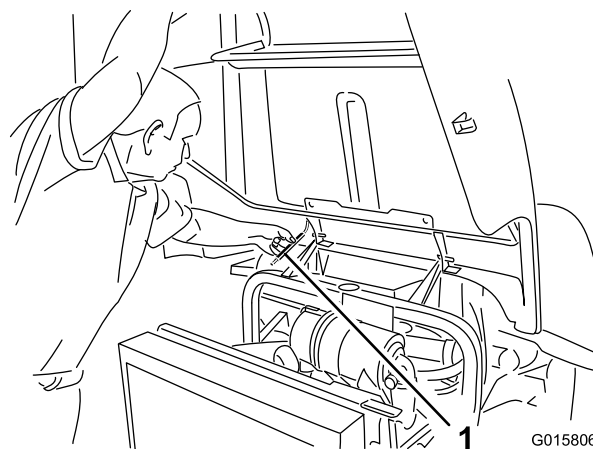

Figure 38
2. Lift up on the hood until the prop rod can be positioned behind the frame tube (Figure 38).